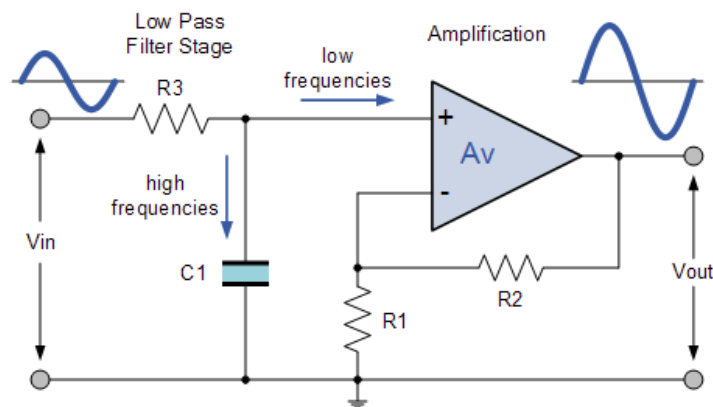

Fig.3
1. Insert an AC input of 1V amplitude to the filter circuit in Fig. 3. Select the passive components to set the cutoff frequency of the filter to 40KHz.